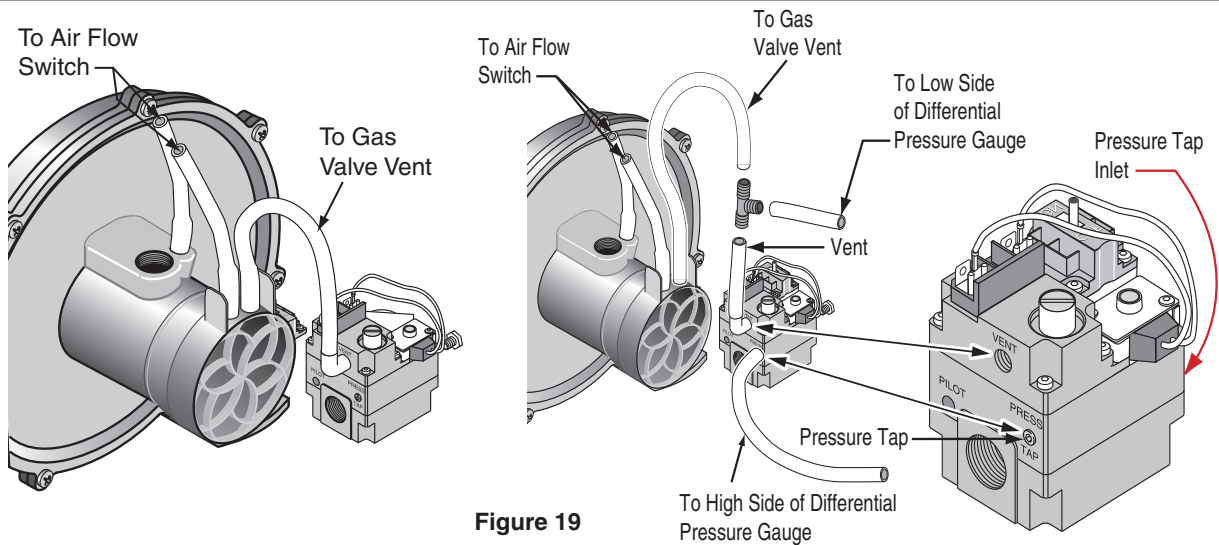

Figure 19
The combination gas valve incorporates dual shut-off valves and a pressure regulator. For proper operation, the regulated pressure at the outlet manifold of the valve must be **1.4" (3.6 cm) wc** below the reference pressure at the blower mixer inlet, and the gas valve 'VENT' tap must be connected to the end cap air orifice as shown in Figure 19.
**⚠ WARNING: It is critical to connect the tubing from the gas valve outlet pressure to the High Side of Differential Pressure Gauge and the tubing from the vent must be connected to the Low Side of the Differential Pressure Gauge, as seen in Figure 19, to avoid incorrect adjustment of the gas valve that may lead to excess of carbon monoxide which can cause damage to the heater, property damage, personal injury, (including brain damage), or death. The release of carbon monoxide is colorless and odorless and may result in serious injury or death. The connections to the Differential Pressure Gauge are different with respect to all other Pentair pool heaters.**